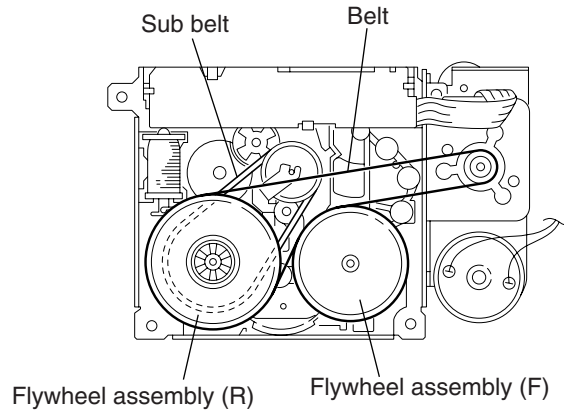

Fig.11
■ **Removing the flywheel assembly (F) and (R) (See Fig.11 and 12)**
• Prior to performing the following procedure, remove the side bracket (L), (R), cassette hanger assembly / cassette holder.
2. Remove the polywasher from the flywheel (F) and (R) on top of the body.
3. Pull out the flywheel (F) and (R).